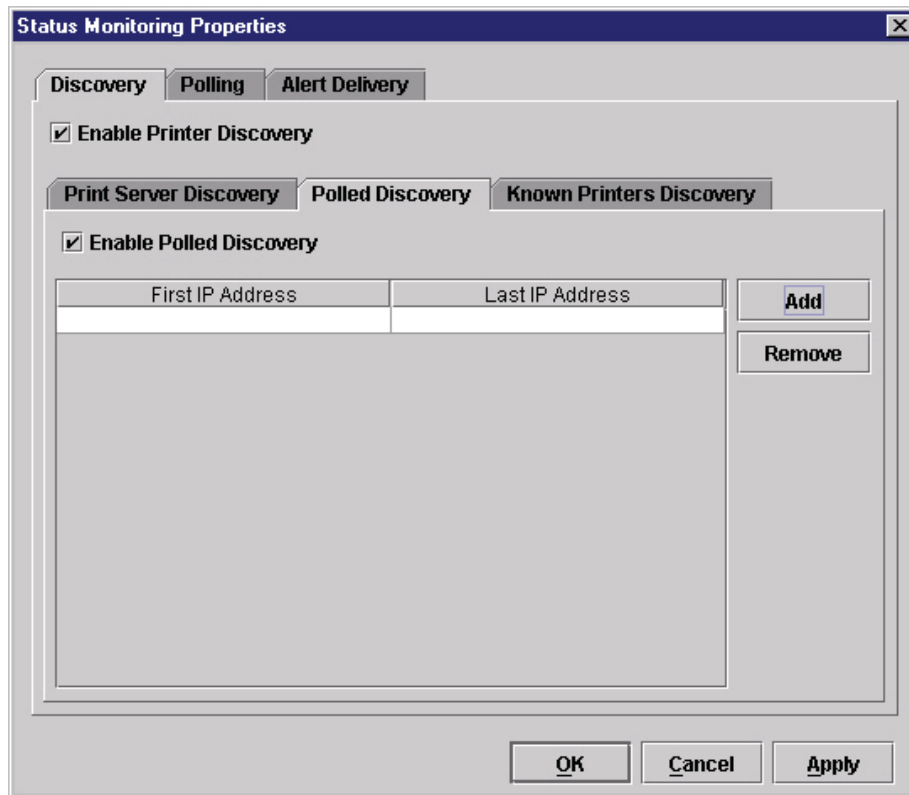

Figure 28 Status Monitoring Properties: Discovery Tab – Polled discovery Sub-Tab
2. **Polled Discovery:** This option allows you to select a range of IP addresses to poll. To enable the option, click the **Polled Discovery** tab and check the **Enable Polled Discovery** check box, then click **Add** (see Figure 28). In the First IP Address field, enter the first IP address of your desired range. In the Last IP Address field, enter the last IP address. Click **Apply** or **OK**. PNE Auto ID polls the printers within your specified range and displays the results in the database pane.